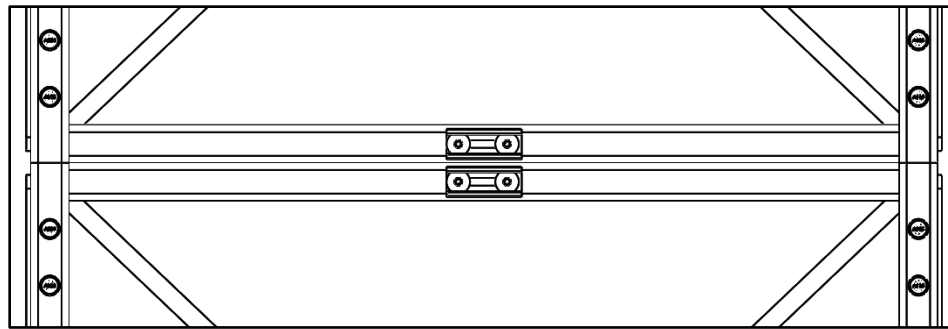

Figure 22. Two (2) Eye/Face Wash Mount Steel Struts Installed
3. Repeat Steps 1 and 2 for second Eye/Face Wash Mount Steel Strut. Results should resemble Figure 22.